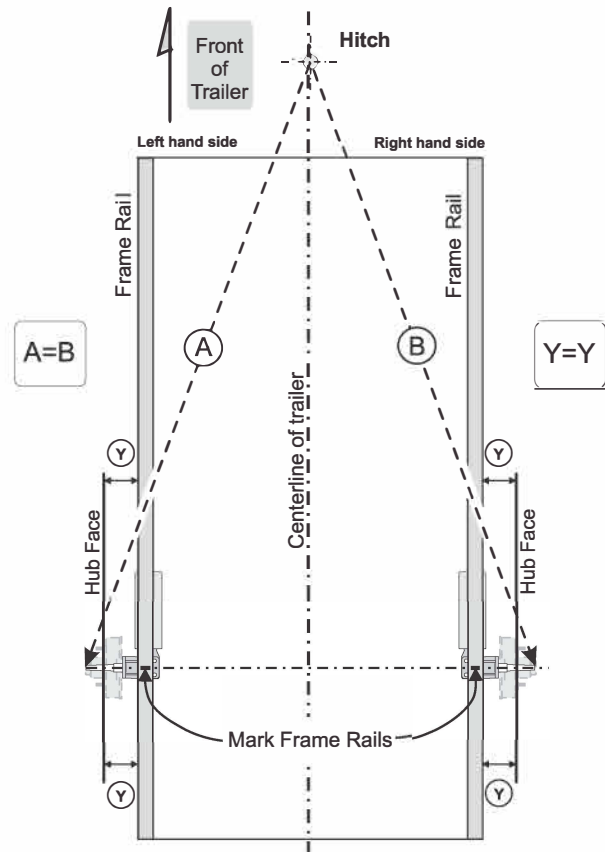

Fig. 2 Spindle Alignment (View from the top)
2. Make sure frame is perfectly square. Measure and compare the diagonal distances from one corner of frame to the opposite corner. Also measure and compare the distances from the hitch to each rear corner of frame. Ideally the measurements are identical (in each case the difference should be less than 1/8" (3 mm). Mark frame rails where centerline of spindles (wheels) should cross frame (fig. 2)⁽²⁾.
3. Locate the left hand and right hand side hangers on frame rails, opposite to each other. Move hangers along frame until center of spindles line up with marks on the frame rails, viewing from top (fig. 2). Clamp hangers to frame. Measure and compare distances "A" and "B". Reposition hangers until the difference between "A" and "B" measurements is less than 1/8" (3 mm).